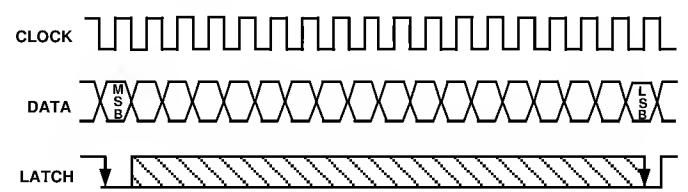
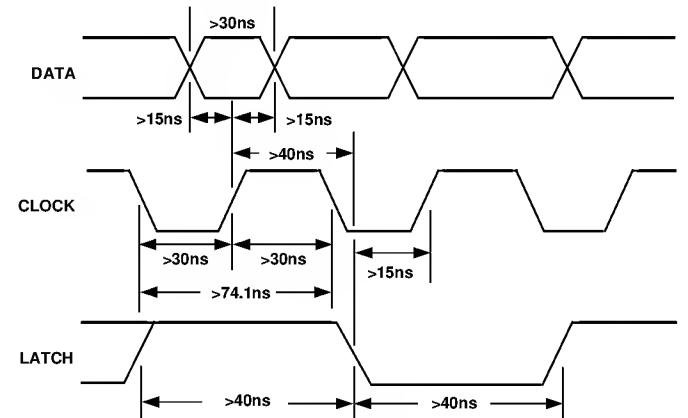

Figure 7. Signal Requirements for AD1861
Figure 8. Timing Relationships of AD1861 Input Signals
Data is transmitted to the AD1861 in a bit stream composed of 18-bit words with a serial, M SB first format. Three signals must be present to achieve proper operation. They are the Data, Clock and Latch Enable (LE) signals. Input data bits are clocked into the input register on the rising edge of the Clock signal. The LSB is clocked in on the 18th clock pulse. When all data bits are loaded, a low-going Latch Enable pulse updates the DAC input. Figure 7 illustrates the general signal requirements for data transfer to the AD1861.
Figure 8 illustrates the specific timing requirements that must be met in order for the data transfer to be accomplished properly. The input pins of the AD1861 are both TTL and 5 V CMOS compatible. The input requirements illustrated in Figures 7 and 8 are compatible with data outputs provided by popular DSP filter chips used in digital audio playback systems. The AD1861 input clock can run at a 13.5 MHz rate. This clock rate will allow data transfer rates for 2 \times , 4 \times or 8 \times or 16 \times oversampling reconstructions.